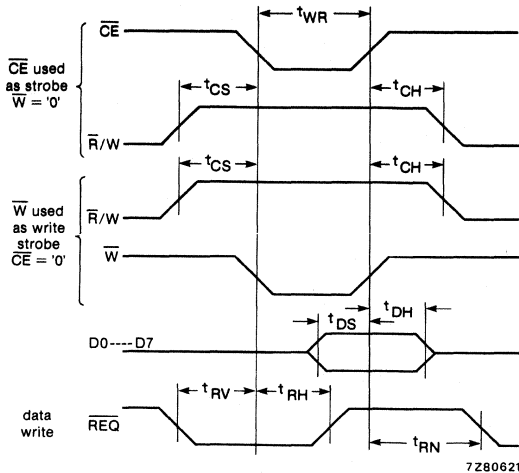

Fig. 9 Write timing.
- SER-mode: The I²C transmitter/receiver will not acknowledge until the synthesizer has powered-up. To power up the synthesizer a parallel write sequence (Fig. 9) must be made to the synthesizer by using external logic for the control lines; at least one line must be toggled, CEN, while WN = 0 and RN/W = 1.